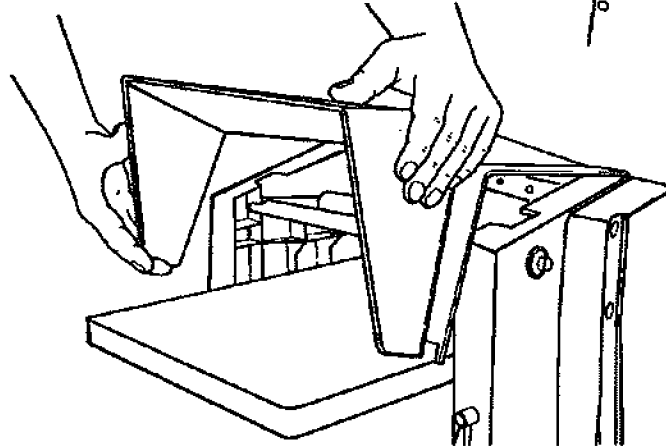

Fig. 44
55. Swing the outfeed shield up and out of the way, as seen in Fig. 44.